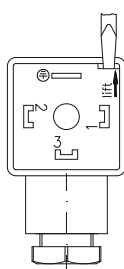

Fig. 6
- ⚡ Open the core ⑧ of the cable socket ② with a screwdriver or similar tool (→ Fig. 6).